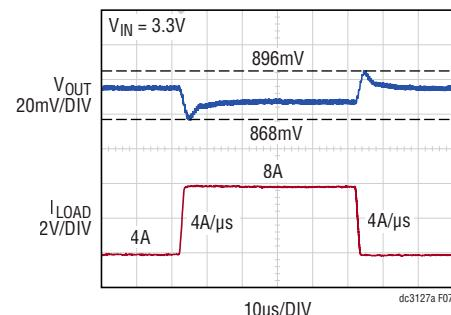

Figure 7. Load Step Response
8. Measure the I_{STEP} voltage to observe the current, $V_{I_{STEP}}/20\text{m}\Omega$. Adjust the amplitude of the pulse to provide the desired transient. Connect signal generator SG1 between SG_INPUT and GND turrets. Adjust the rising and falling edge of the pulse to provide the desired ramp rate. Figure 7 shows a load step from 4A to 8A. Refer to the following equations: